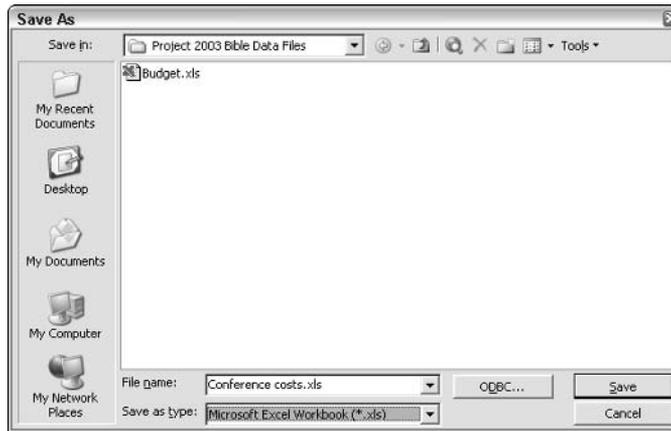

Figure 14-10: The Save As dialog box as it appears after you choose to save an Excel workbook file.
3. Open the Save as type list box, and select Microsoft Excel Workbook. The Save As dialog box should resemble the one that is shown in Figure 14-10.